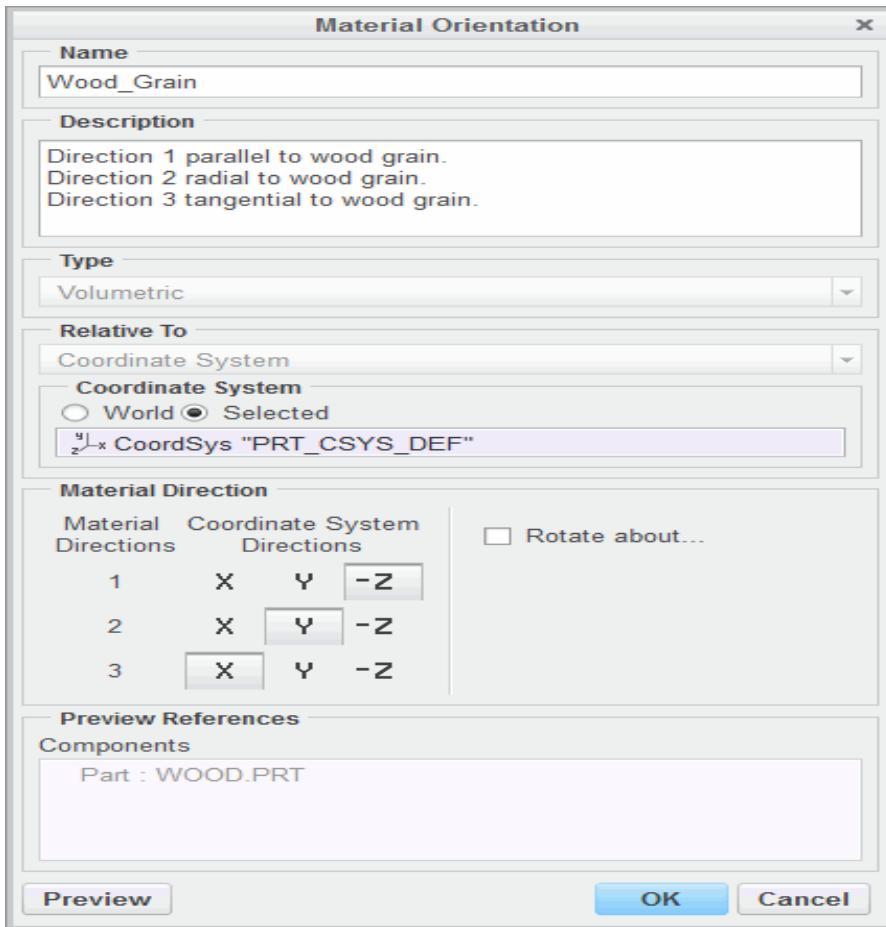

Figure 1 – Material Orientation Dialog Box
- Material Direction Grid: Relates material coordinate directions 1,2, and 3 with base orthogonal vectors of the referenced coordinate system. The material grid displays near the bottom of the Material Orientation dialog box shown in Figure 1.